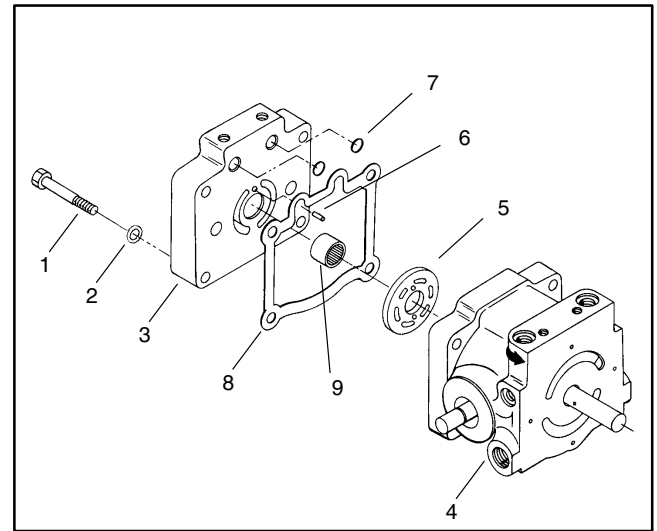

Figure 52
12. Position end cap to the variable housing. Lubricate O-rings with clean hydraulic fluid. Position O-rings into recessed holes of the end cap (Fig. 52).
13. Slide four cap screws through washers and end cap holes. Place gasket onto the cap screws and the end cap face (Fig. 52).
14. Insert locating pin into the end cap. Lubricate slotted side of valve plate. Slip plate over pin and protruding bearing (Fig. 52).
15. Mate four cap screws to the variable housing (Fig. 52).